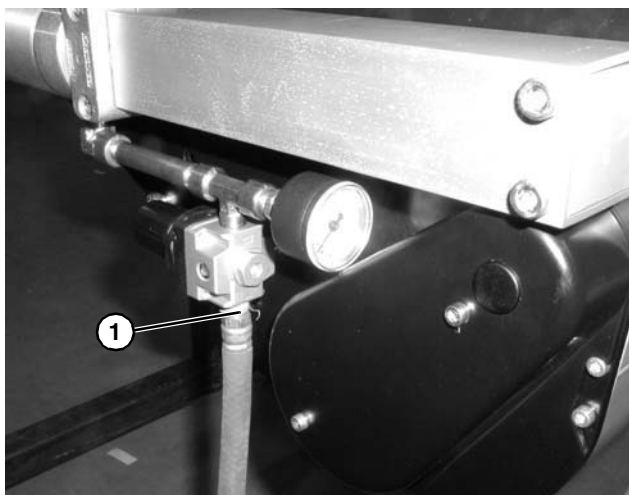

Figure 85
1. Remove air supply (**Figure 85, item 1**) from center drive module.